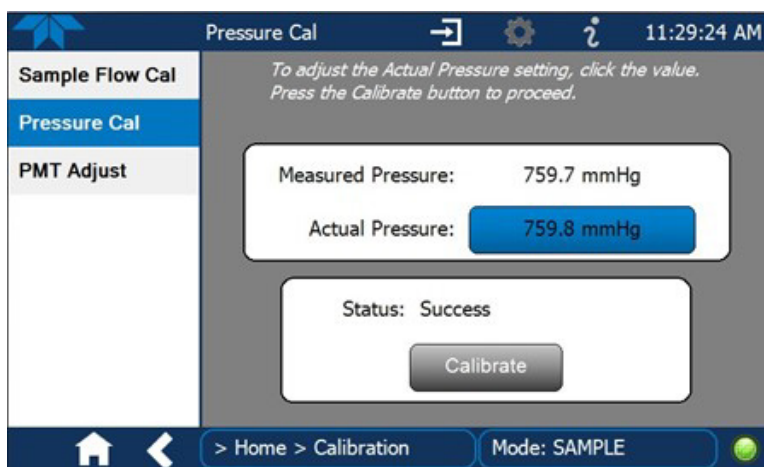

Figure 17. Pressure calibration screen. IMPORTANT: Perform this calibration prior to any flow calibration.
2. Compare the "Measured Pressure" on this screen with the Audit Pressure Standard (Figure 17).